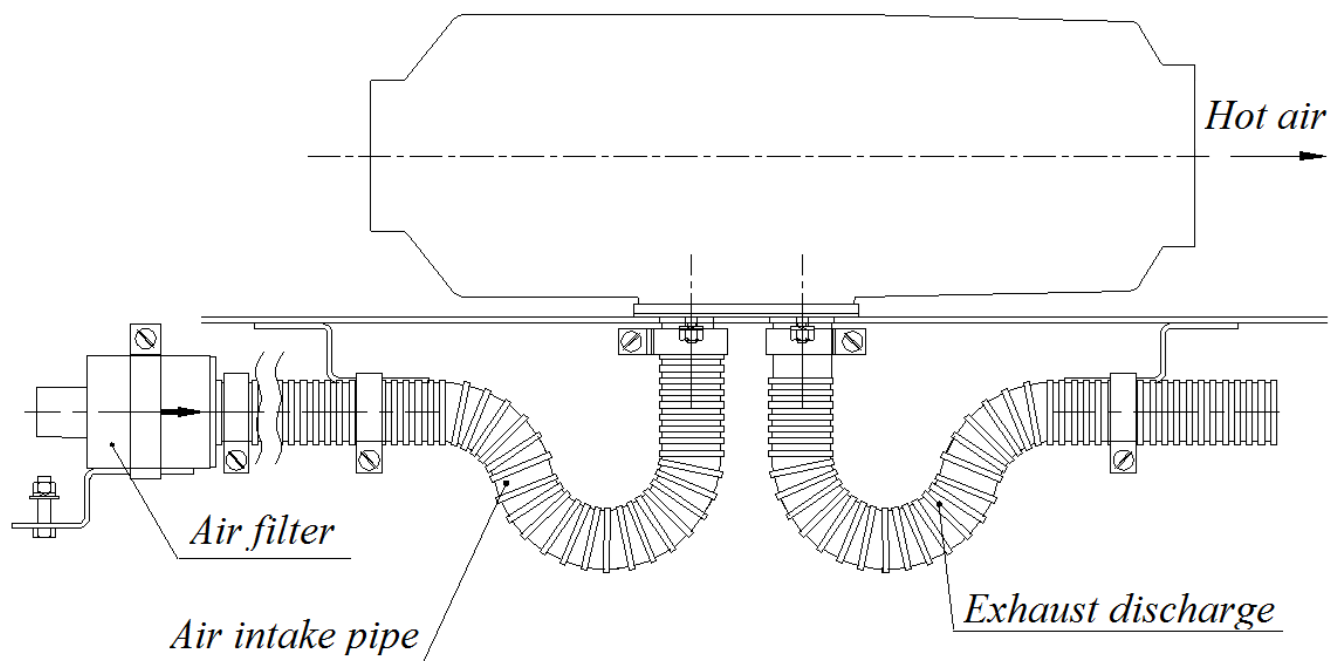

Fig. 9 Assembly of the air-take pipe and the air filter
5.2 Assembly of the air-take pipe and the air filter (Fig. 9)
The air-take pipe is assembled in the way that prevents snow and oncoming flow of the air from getting into it while the vehicle is moving. The air-take pipe is fastened with worm clips and brackets. The number of the fastening points is determined in the process of assembling. The most common variant of the assembly of the air-take and exhaust pipes is shown in figures 9 and 9 a.